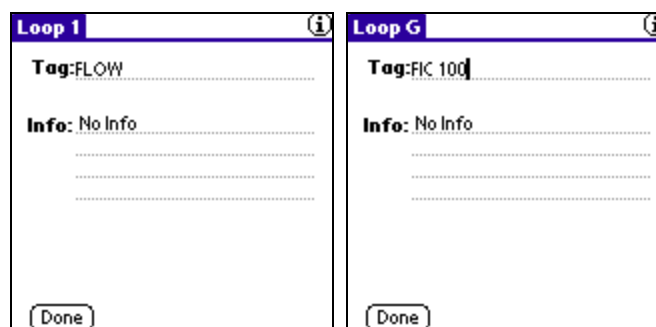

Figure 8
5. Select the Loop 1 and Loop G to change the **Tag** value (Figure 8).